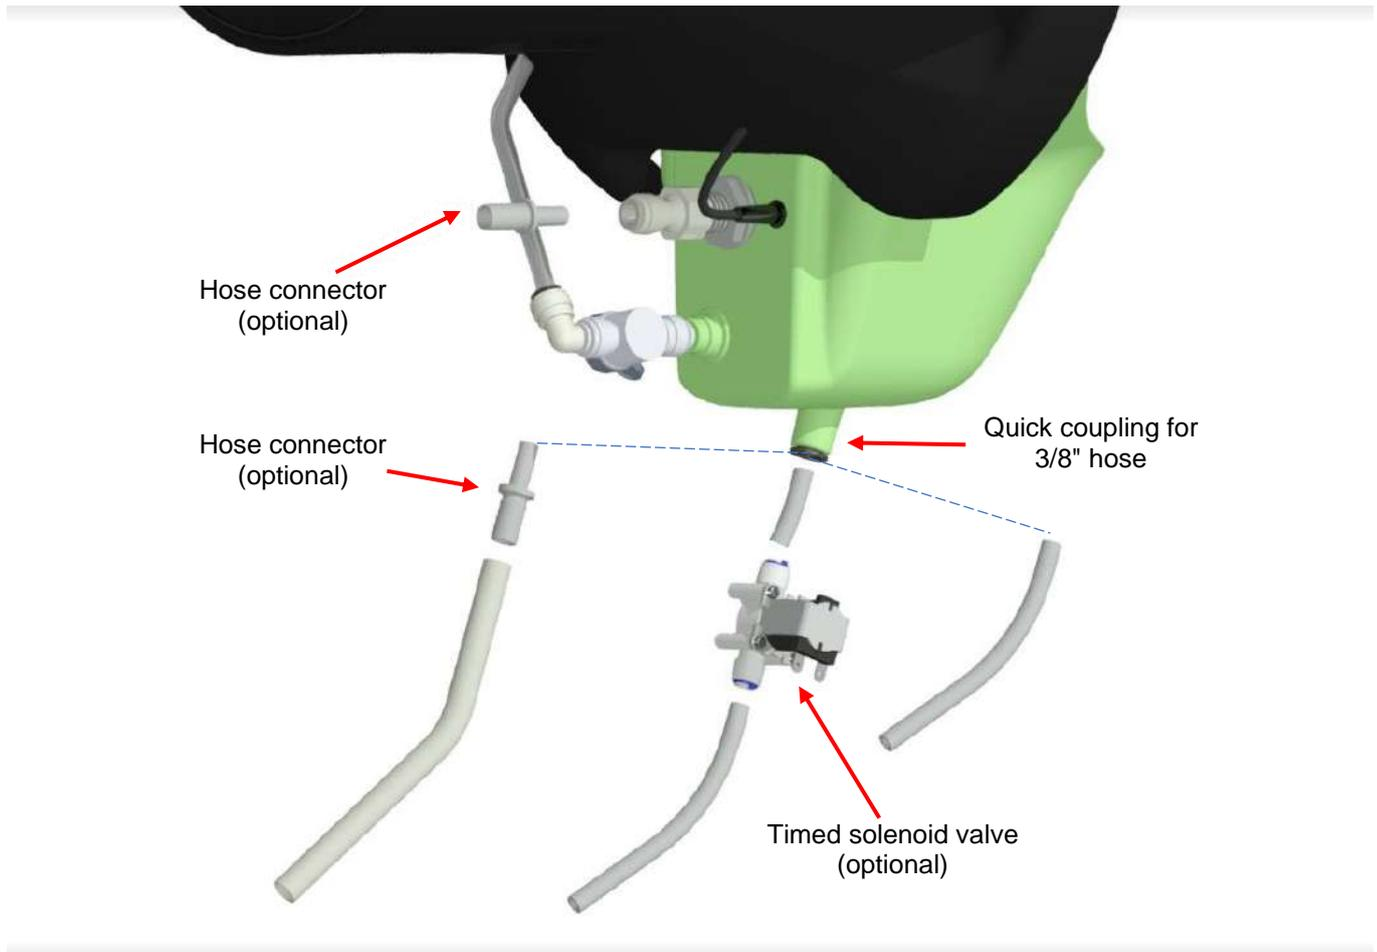

Fig. 2.4.1
(Fig. 2.4.1):
A specific accessory (Fig. 2.4.1) is available for the direct connection of a hose by means of a hose barb.
- connect a flexible hose to the discharge pipe, either directly or via the hose connector available as an accessory (see Fig. 2.4.1) and provide a suitable shut-off device (e.g. tap, timed solenoid valve, etc.) which must be normally closed during operation.